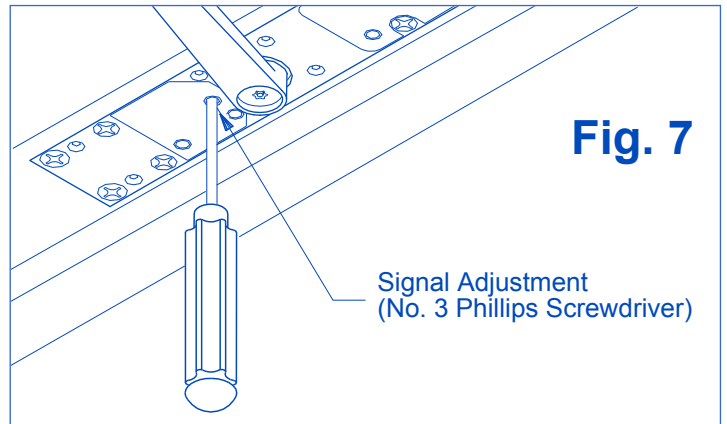

Fig. 7
- Open the door approximately 20°, or enough to access the signal adjustment hole in mounting plate (See Fig. 7, below). Prevent door from moving during the adjustment. Insert the No. 3 Phillips screwdriver into the signal adjustment hole to engage the trigger gear.
- Open the door approximately 20°, or enough to access the signal adjustment hole in mounting plate (See Fig. 7, on previous page). Prevent door from moving during the adjustment. Insert the No. 3 Phillips screwdriver into the signal adjustment hole to engage the trigger gear.